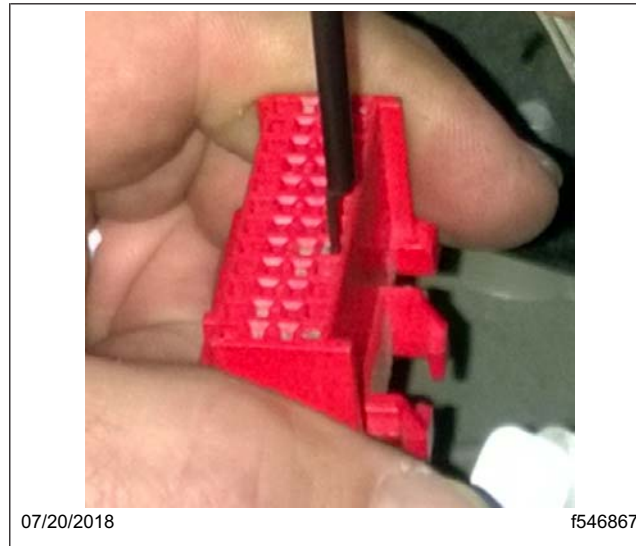

Fig. 7, Removing the Terminal from the Connector
12. Insert the removal tool (p/n DKIOCHA17002-2) into the access hole opposite the terminal to unlock and release the terminal. See Fig. 7. Remove wire 376N from the connector.